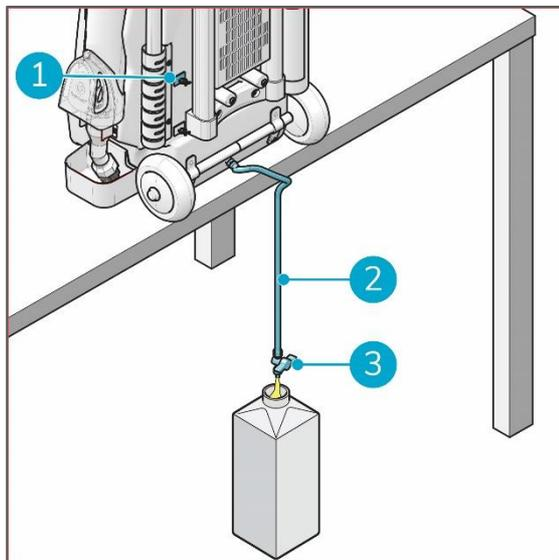

Figure 34
5. Press the ON/OFF button (Figure 34, pos 2) on the handle control.
6. Press the H/M/L multi function button (Figure 34, pos 1).
8. Release the H/M/L multi function button (Figure 34, pos 1).
11. Turn off the machine via the ON/OFF button (Figure 34, pos 2).
2. Release the drainage tube (Figure 34, pos 2) via the clips (Figure 34, pos 1).
5. Open tap (Figure 34, pos 3).
6. When empty close tap (Figure 34, pos 3).
8. Replace drainage tube (Figure 34, pos 2) using the clips (Figure 34, pos 1).